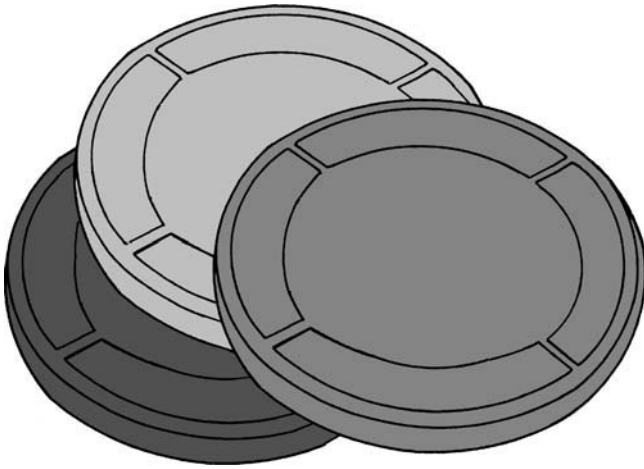

Figure D.23 Film cans.
- Extra film cans and black bags (400 ft and 1000 ft) (see Figure D.23)